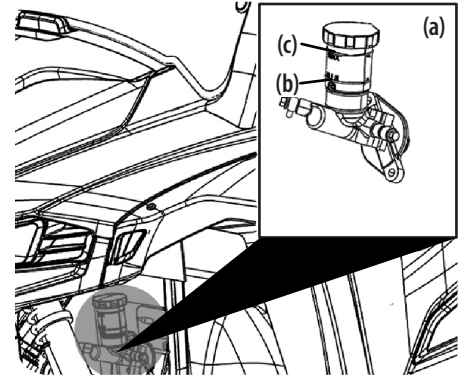

Figure 5-15
1. Check to see that the brake fluid level of the brake fluid reservoir (a) is up to the MIN (b) level. See Figure 5-15.